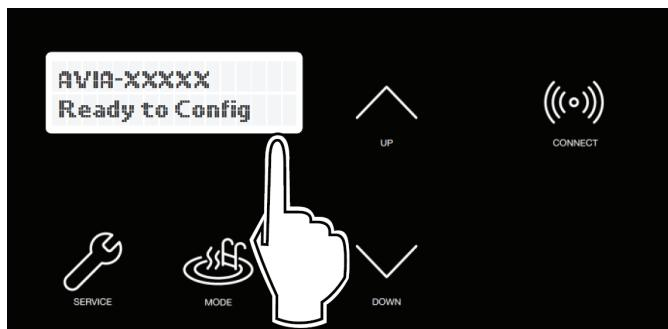

Figure 79. Wi-Fi Ready to Configure and HOTSPOT Identifier
2. The CONNECT menu should display the Wi-Fi State, indicating "Ready to Config" wireless connection, and also the HOTSPOT identifier. See **Figure 79**.